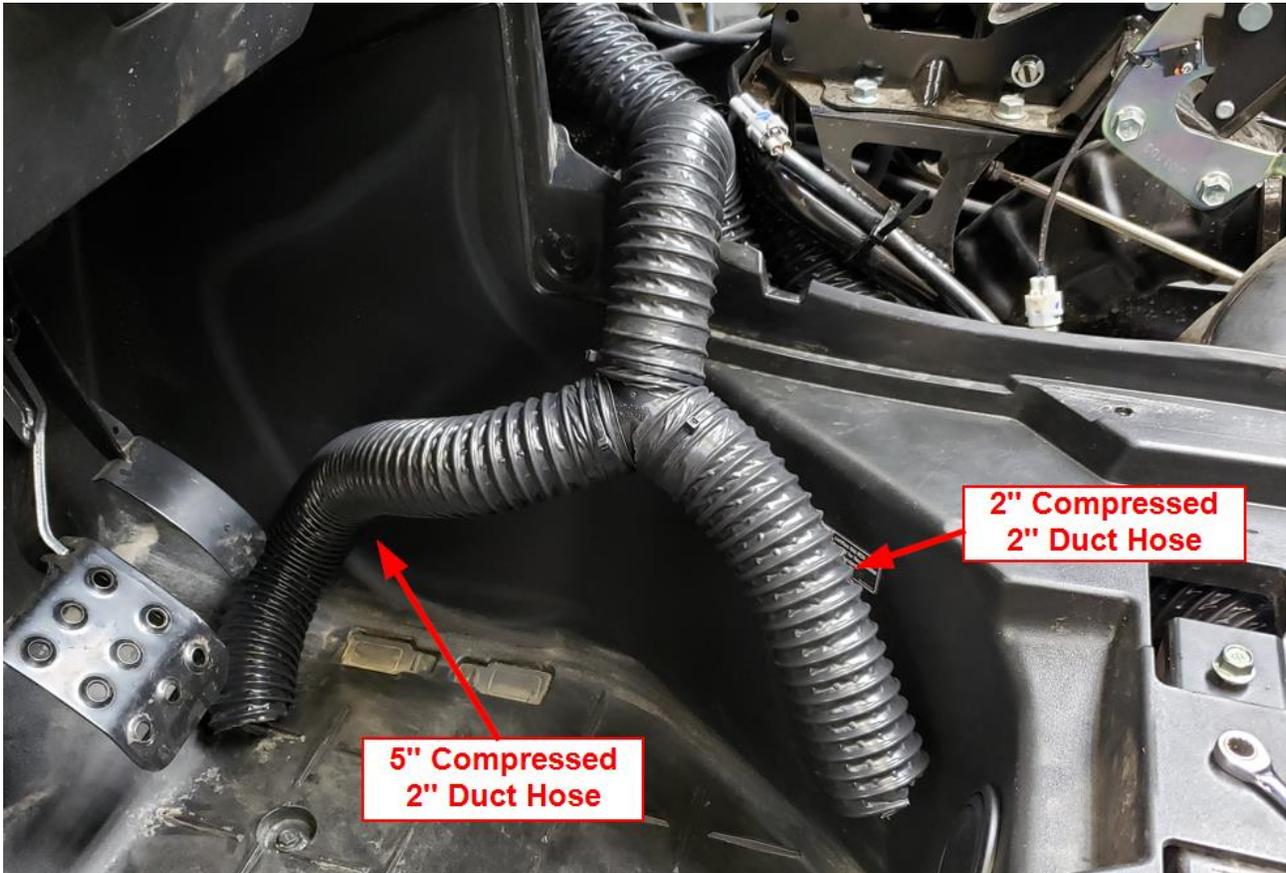

Figure 22
- e. Cut a 5” piece of compressed 2” Duct Hose as well as a 2” piece of Compressed 2” Duct Hose. Attach the hose to the Y fittings on the Driver Side as shown in Figure 22. Secure using zip ties and repeat on the Passenger Side.